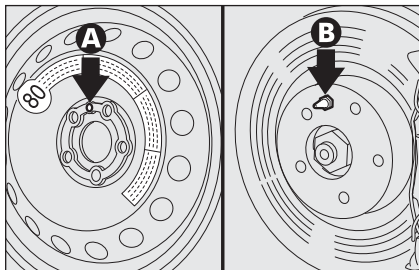

fig. 10
- fit the space-saver spare wheel making one of the holes **A-fig. 10** coincide with the relevant pin **B**;
- Fit the standard wheel taking into account that pin **B-fig. 10** shall coincide with one of the holes **A**;